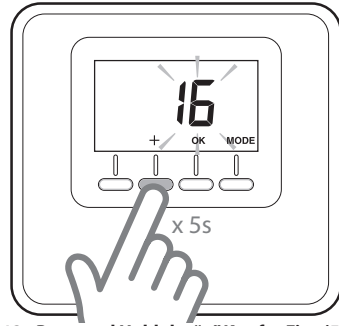

Figure 13 - Press and Hold the "+" Key for Five (5) Seconds
- Press and hold the "+" key on the room sensor for five (5) seconds (Figure 13).
- Again, press and hold the "+" key on the room sensor for five (5) seconds.